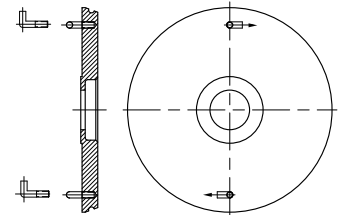

Figure No. 4
7. Screw back plate pins into back plate. (see figure no.4)